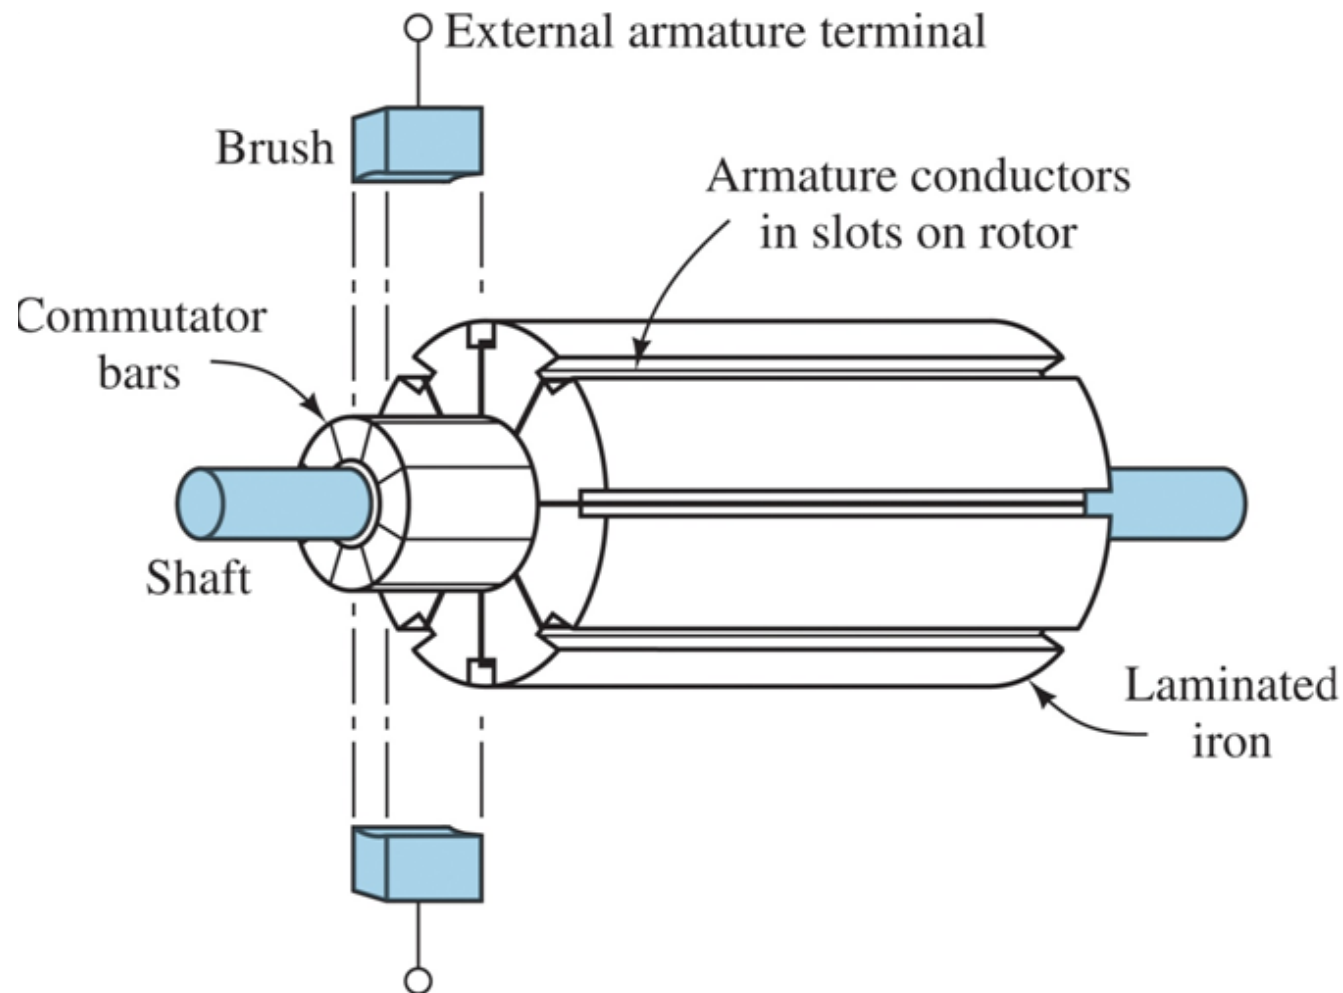

Fig. 5.9 Rotor assembly of a DC machine.
- Rotor with slots for armature conductors are shown in Fig. 5.9.